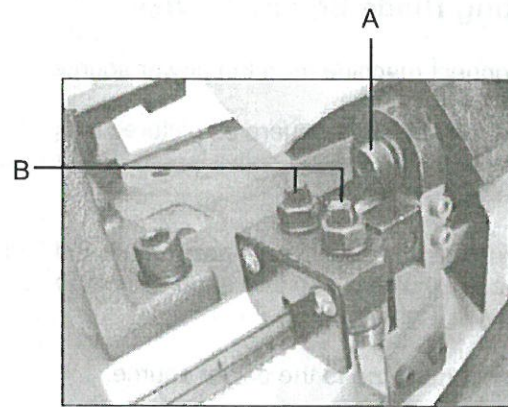

Fig. 15
3. Loosen hex cap screw (A, Fig. 15) and adjust assembly up or down so that back roller bearing is approximately 0.08mm-0.12mm from the back of the blade, tighten the screw A after adjustment.